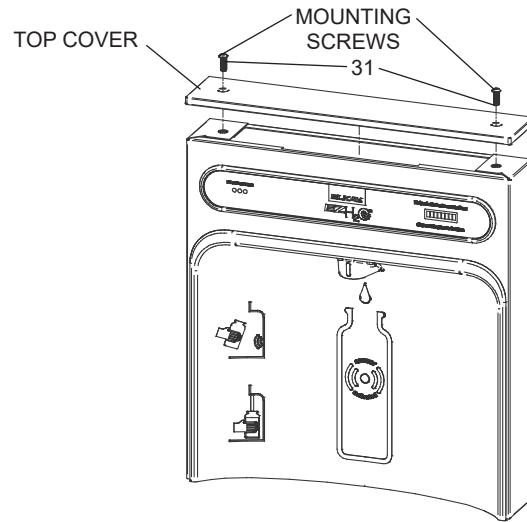
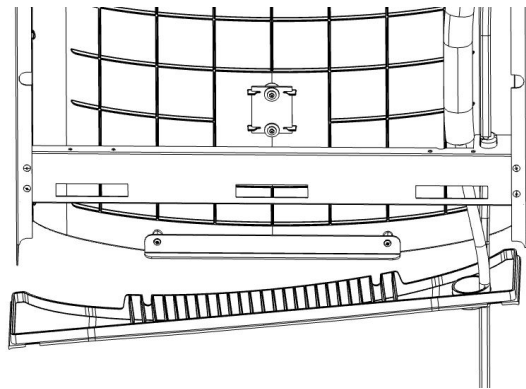

Fig. 11
Fig. 12
- 1) Remove two (2) mounting screws with 5/32" Allen wrench holding top cover to Bottle Filler (See Fig. 11). Remove top cover. Note do not discard mounting screws, they will be needed to reinstall top cover.
- 7) Feed power cord & 3/8" water line through hole in tower/basin gasket (See Fig 12).
- 8) With the power cord, wire(s), and waterline through hole on top of water cooler place Bottle Filler on the three (3) angled tabs protruding from the wall mounting plate installed on wall. Make sure round boss in gasket fits in hole of basin.
- 9) Once Bottle Filler is installed on wall plate tabs, make sure the water line, wire(s) and power cord are installed properly. Inspect for leaks, fix all leaks before continuing. Push top of Bottle Filler toward wall and line up top cover two (2) holes.
- 10) Reinstall Top Cover on Bottle Filler (See Fig. 11) with two mounting screws from step 1 above. Caution, do not over tighten screws.